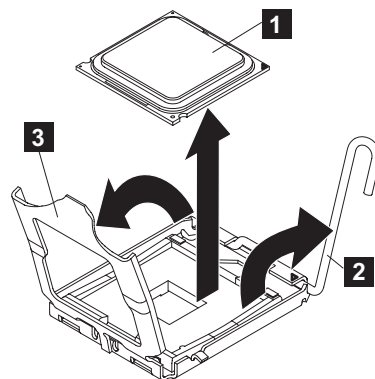

Figure 245. Opening the SAN Volume Controller 2145-CF8 microprocessor-bracket frame
11. Release the microprocessor-release lever (**2** in Figure 245), by pressing down on the curved end of the lever, moving that end away from the middle of the processor, and releasing the lever up to the open position.
12. Open the microprocessor-bracket frame by lifting the tab that is on the top edge. Keep the bracket frame in the open position, as shown in Figure 245.